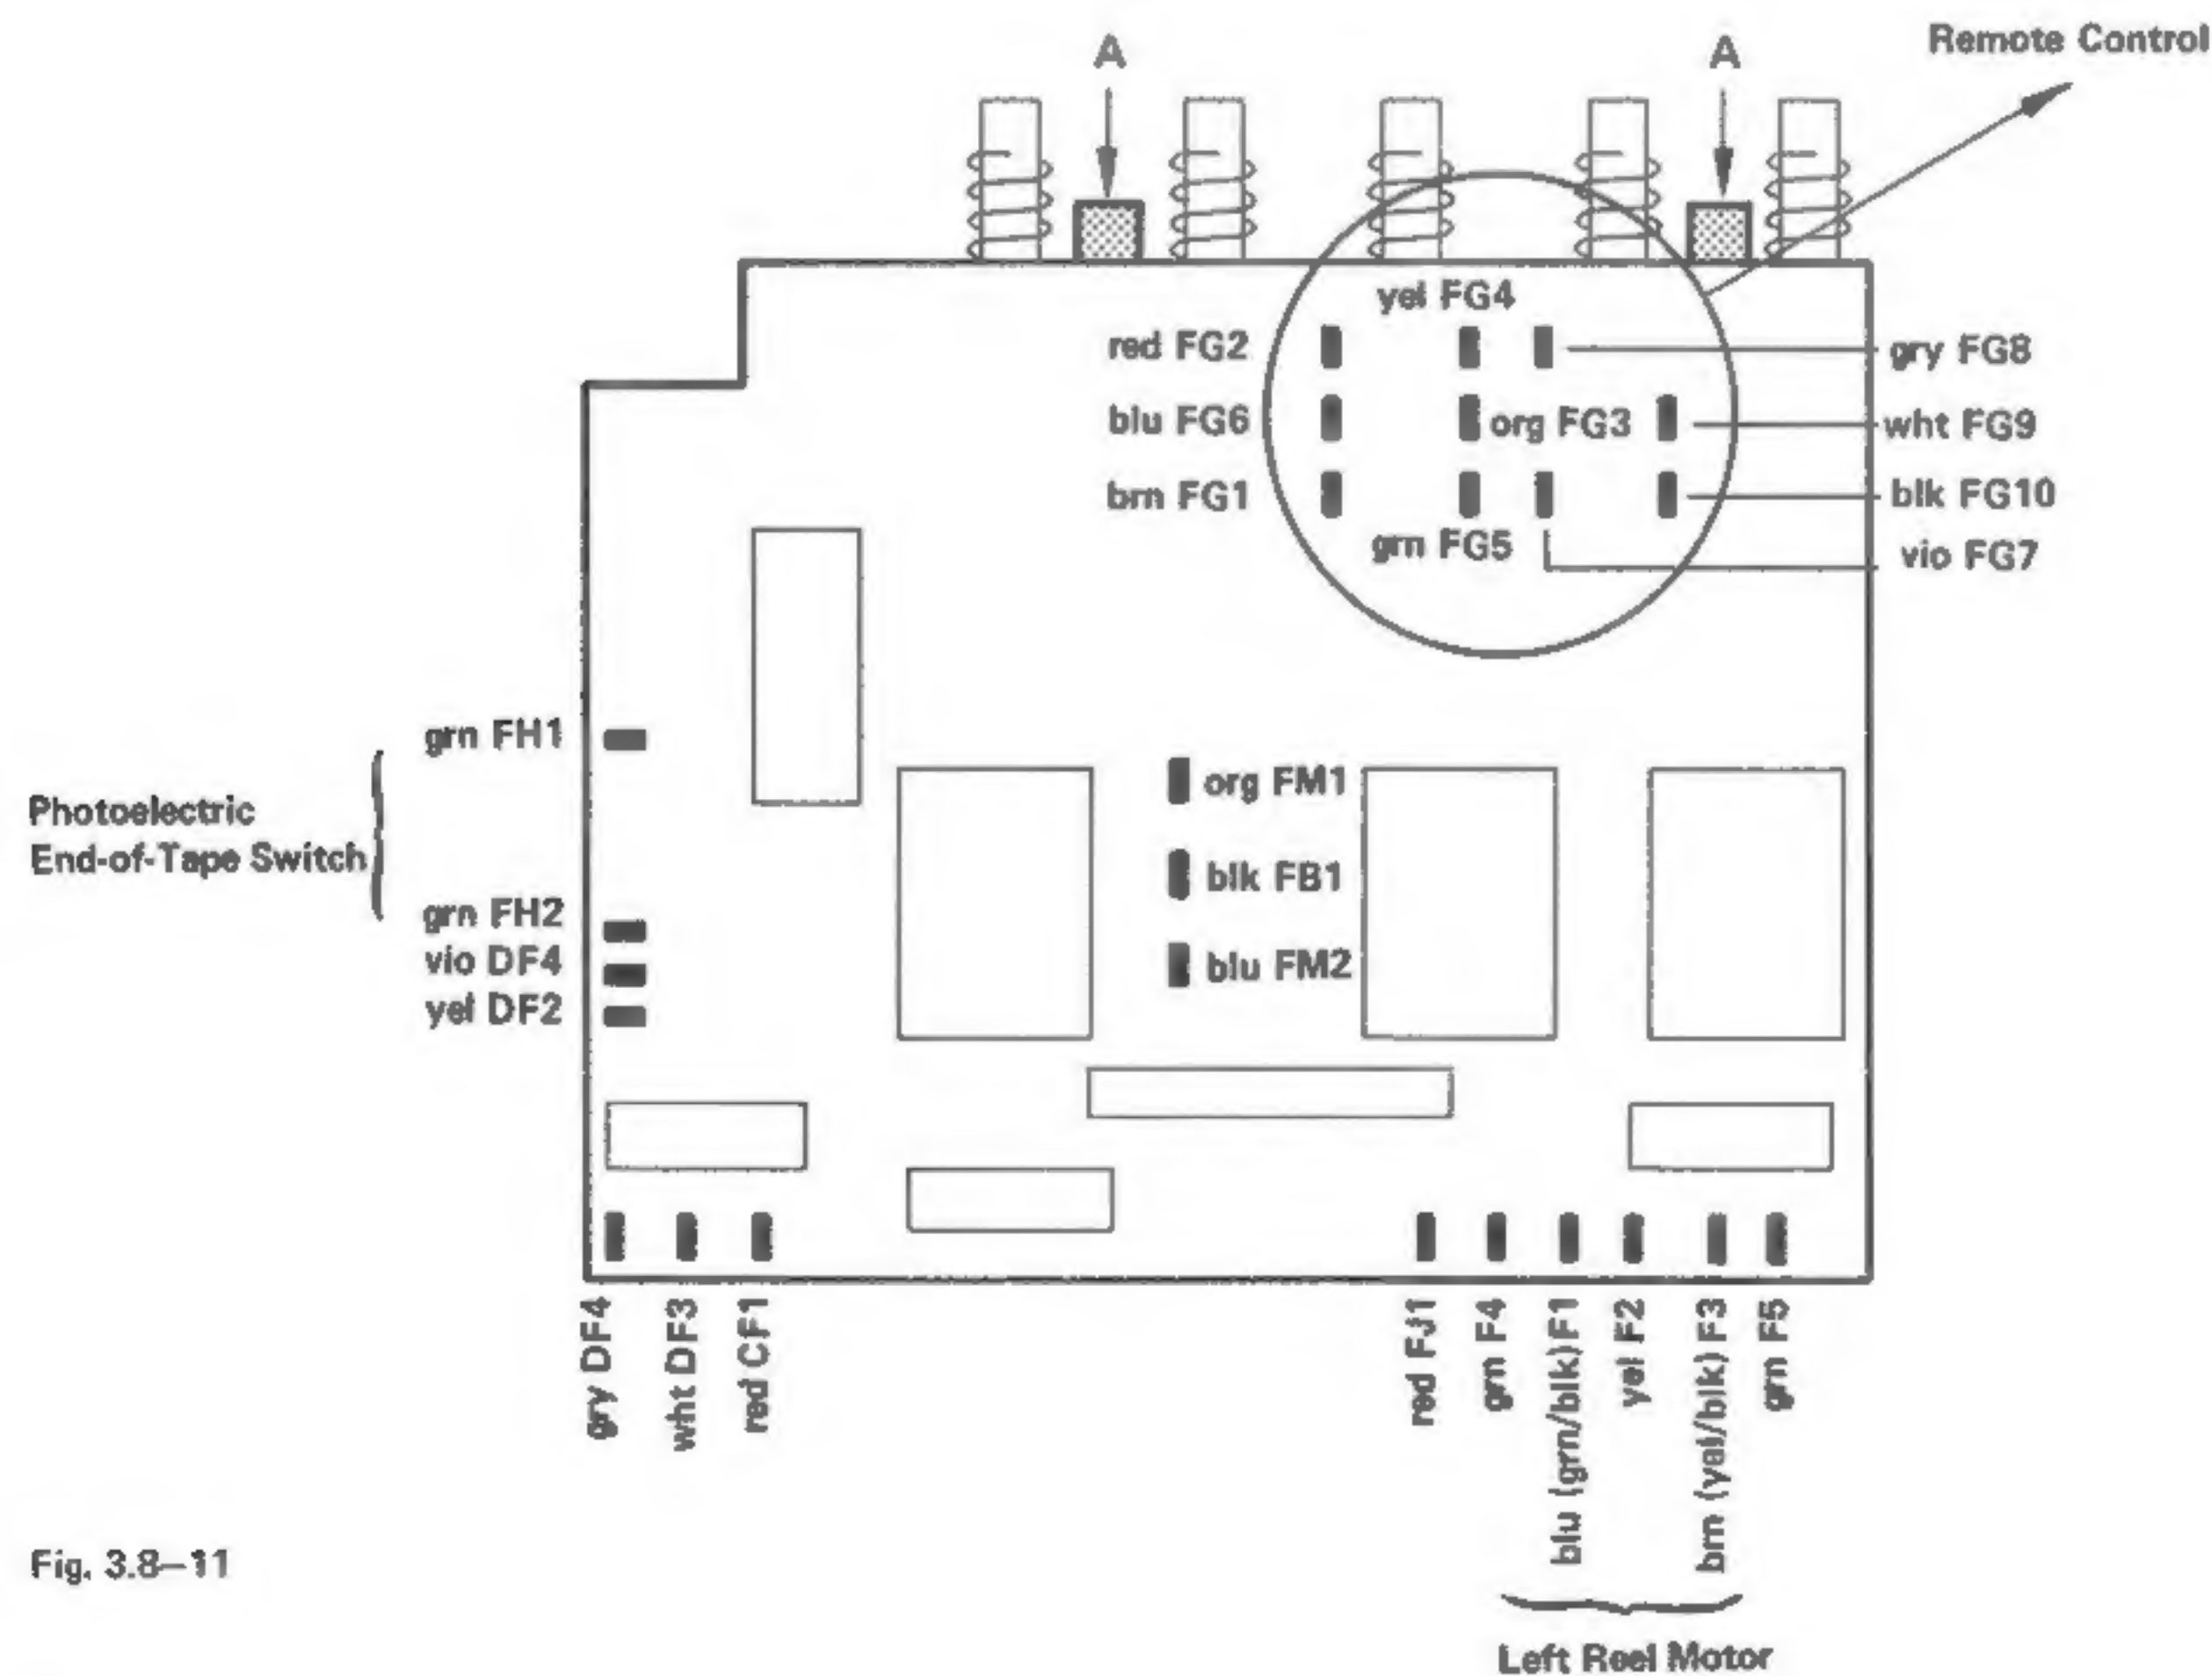

Fig. 3.8-11
- Undo screws A(fig. 3.8-11). Pull control board downward.